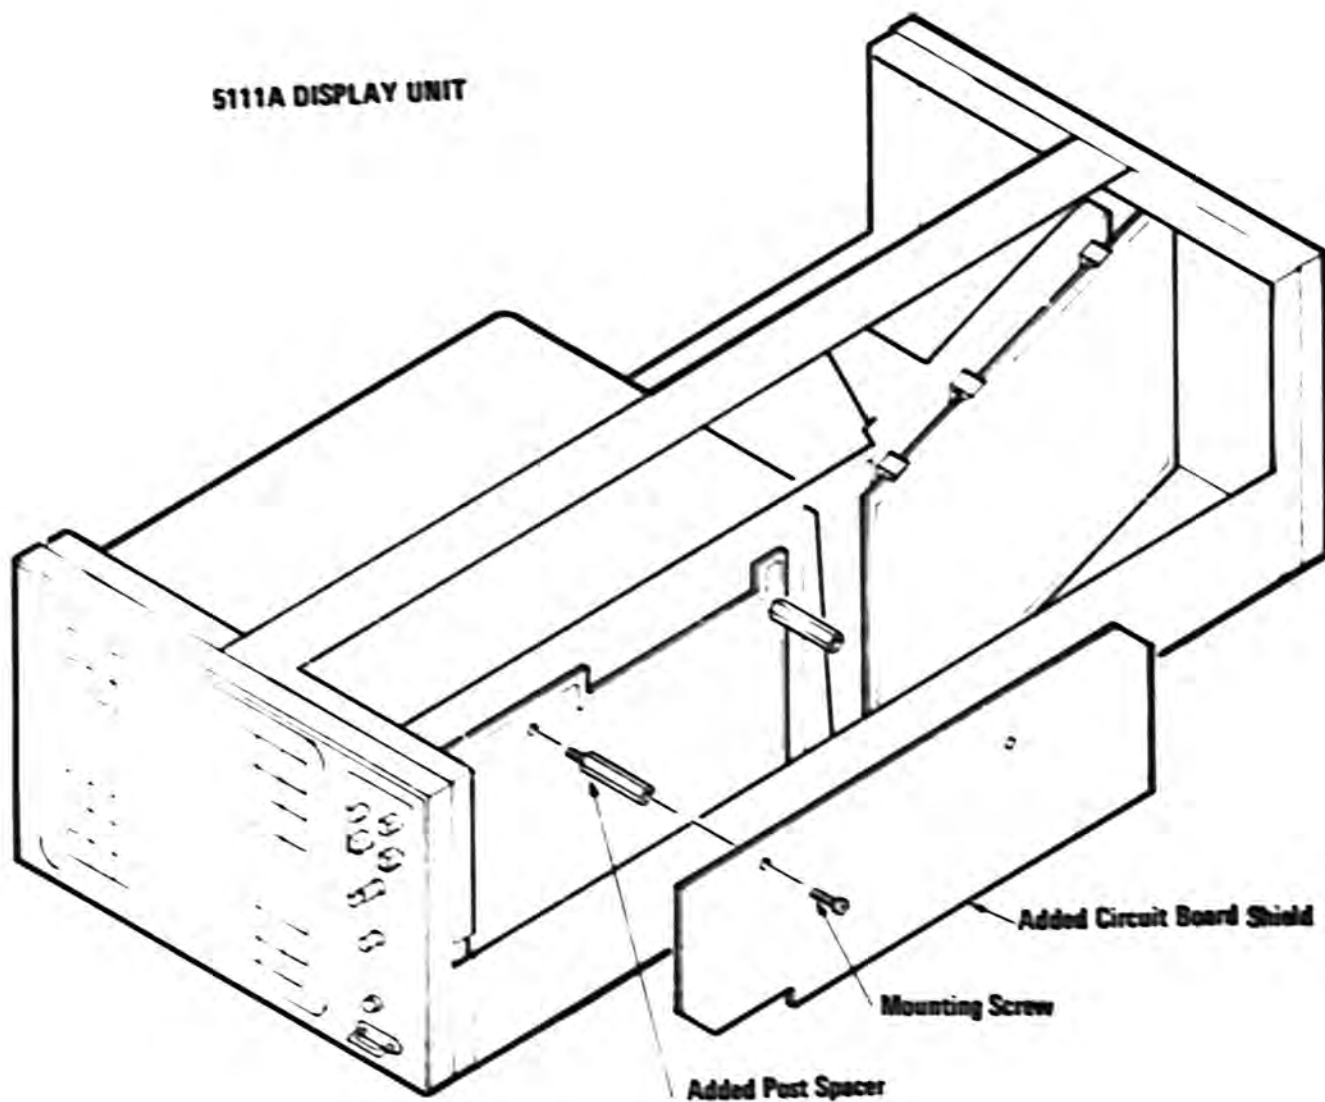

Fig. 1. Mounting method for shield on 5111A and 5116 instruments.
- () 9. 5111A AND 5116 ONLY. Replace the upper two Storage circuit board mounting screws with the post spacers provided in the kit. Mount the provided electrical shield on the spacers, using the circuit board mounting screws removed previously (the lower edge of the shield should be positioned outside of the lower frame section). Refer to Fig. 1.